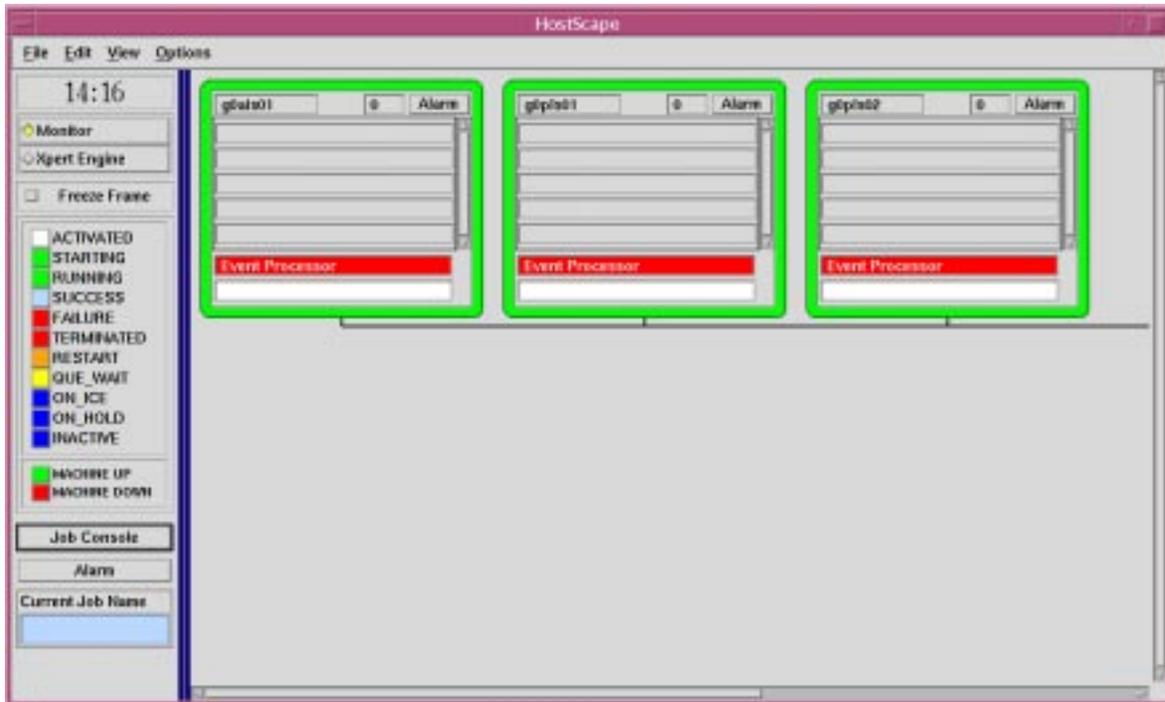

Figure 42. AutoXpert HostScape GUI
- The **HostScape** GUI (Figure 42) is displayed.